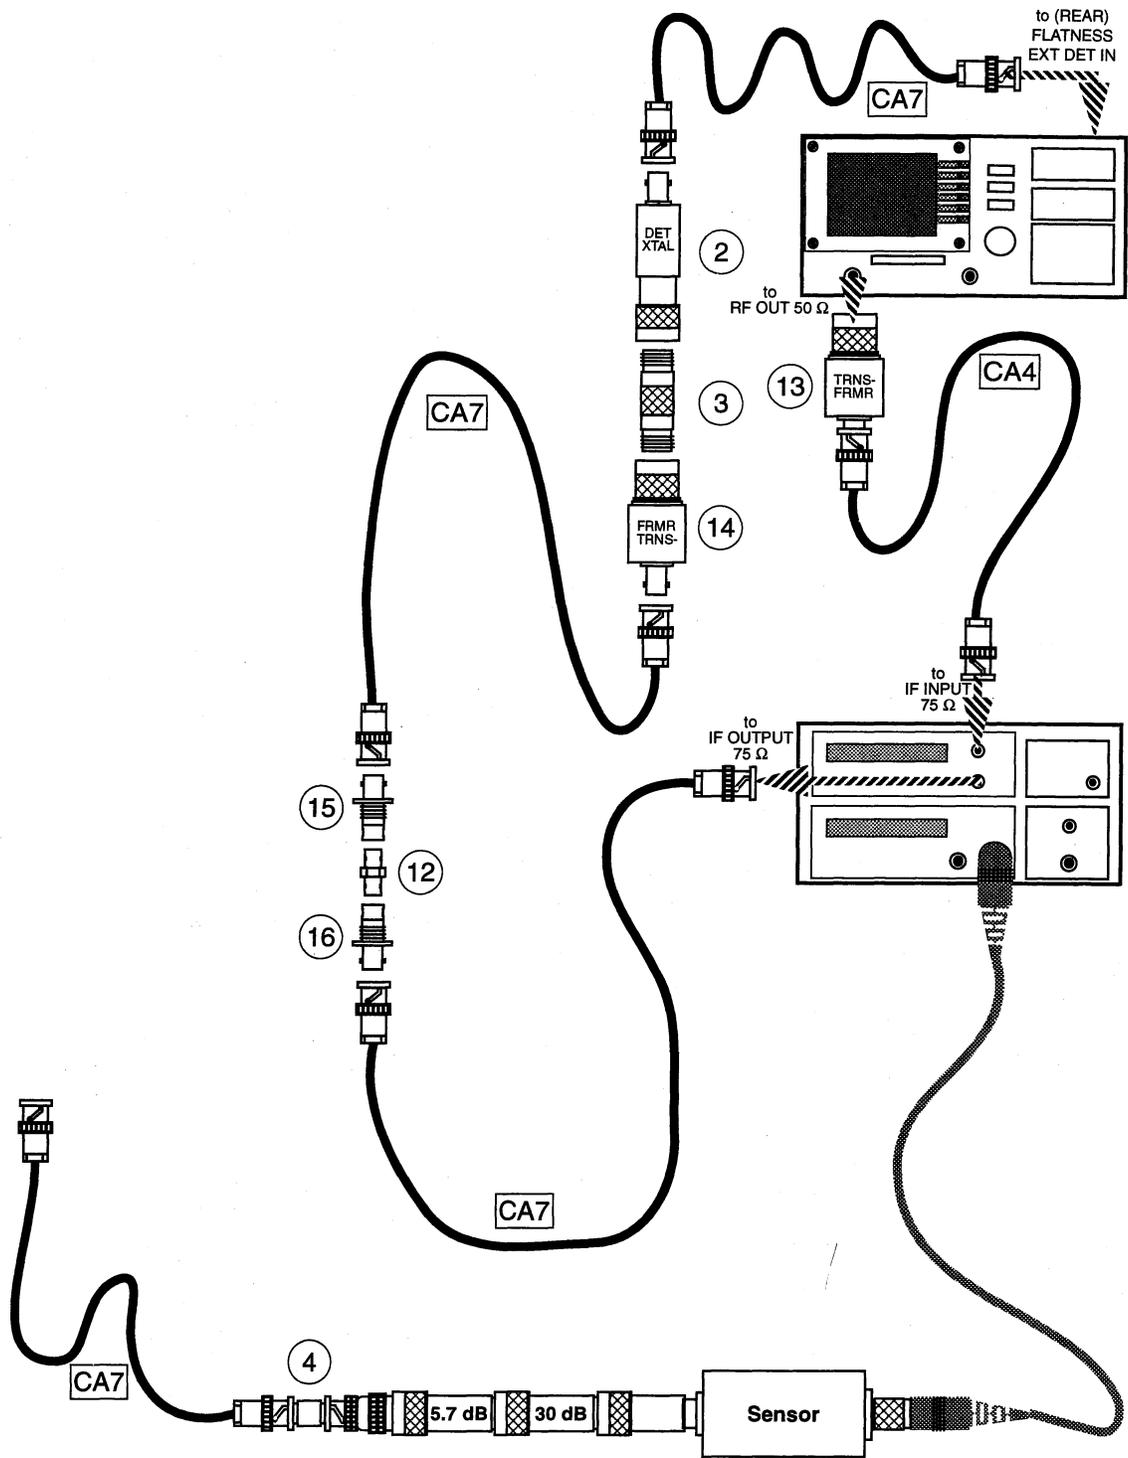

Figure 22. Calibrate Test Equipment Back-to-Back
11 Change the test connections to those shown in Figure 22.
Comment: *Step 14 consists of removing item 12 (an adapter) from the existing test setup (Figure 22) and replacing it with the ASE.*